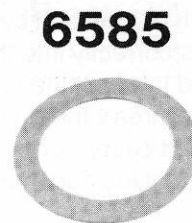
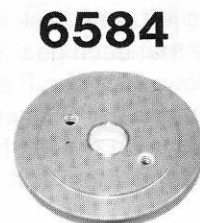

**Fig. 70**
**Fig. 71**
□ **Figs. 70 & 71** Now we are going to start assembling the Associated Torque Control assembly. From bag E remove the #6583 inner torque control hub (with the slot on the back side as shown in fig. 70). Slide the inner clutch hub over the gear shaft so that the hub aligns with and then slides over the drive shaft roll pin, as shown in fig. 71.